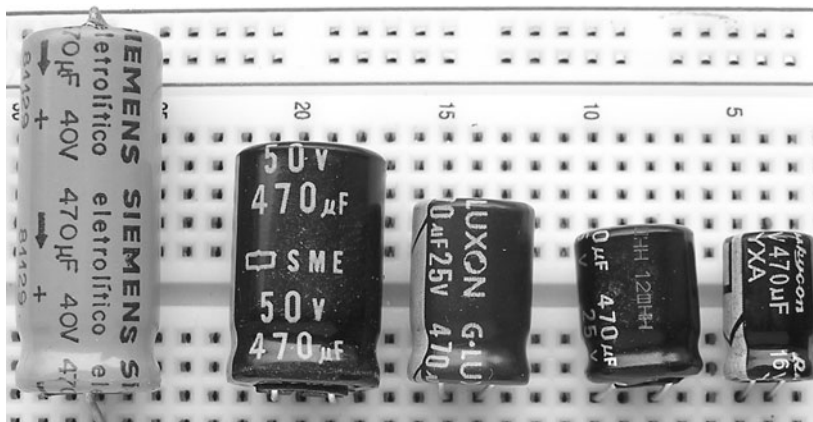

Figure B-1
- Electrolytic capacitors are easy. They have positive and negative connections. They must be placed properly. Polarity is clearly marked. Radial electrolytic capacitors have both leads from one end. Axial capacitors have a lead at each end. Figure B-1 shows that voltage ratings and capacitance are clearly marked.